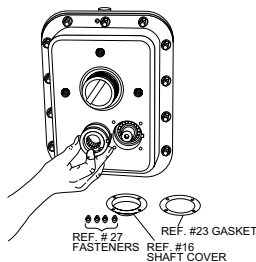

Figure 1
1. **DRIVE PREPARATION:** Drain oil from drive. Remove fasteners Ref. #27, end cover Ref. #23, and gasket Ref. #16, Figure 1. Keep size 5115J and 5207J end covers, size 5207J fasteners and all lock washers for reuse, all other parts may be discarded.